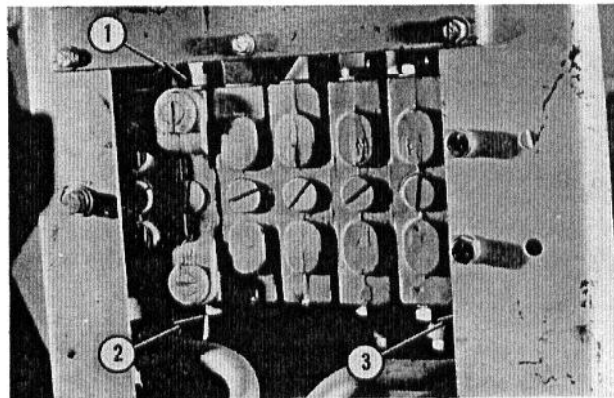

Fig. 8 — Location of Circuit Reliefs In Boom and Dipperstick Working Sections of Control Valve — Dress Console Removed
2. The circuit reliefs installed in the boom and dipperstick working sections of the Backhoe control valve, see Fig. 8, and the extendable dipperstick ("Digmor") working section may be checked as follows (perform No. A and No. B, or No. C):
after the identifying number of the valve. The last letter designates the flow rate capacity of the valve. If the letter "A" is the last suffix letter, the valve has a 3 gpm rating; if the last letter is "B", the valve has a 15 gpm rating, and if the last letter is "C", the valve has a 6 gpm rating. In some cases, a letter then a number will appear after the identifying number of the valve — the last number denotes gpm rating. Stamped under the identifying number of the valve will be its pressure setting.) Use only the recommended relief valve, see Figs. 8, 9 and 10.